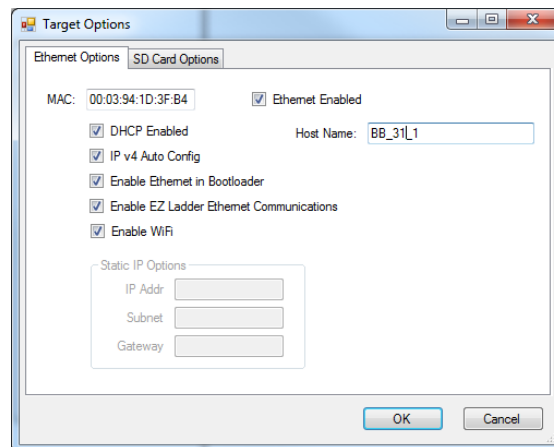

Figure 2-11 - Bootloader Screen Target Options
16. Click the **TARGET OPTIONS** button. The Target Options window will open. There will be two tabs in this window. Click the **ETHERNET OPTIONS** tab. See Figure 2-11.